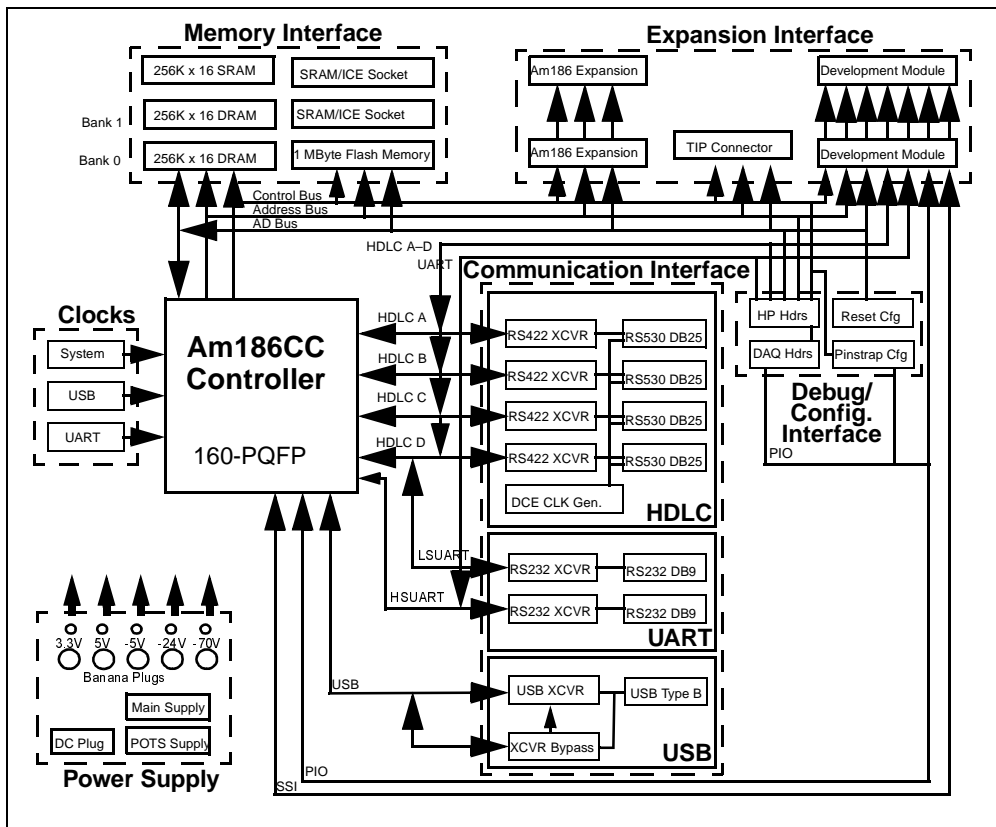
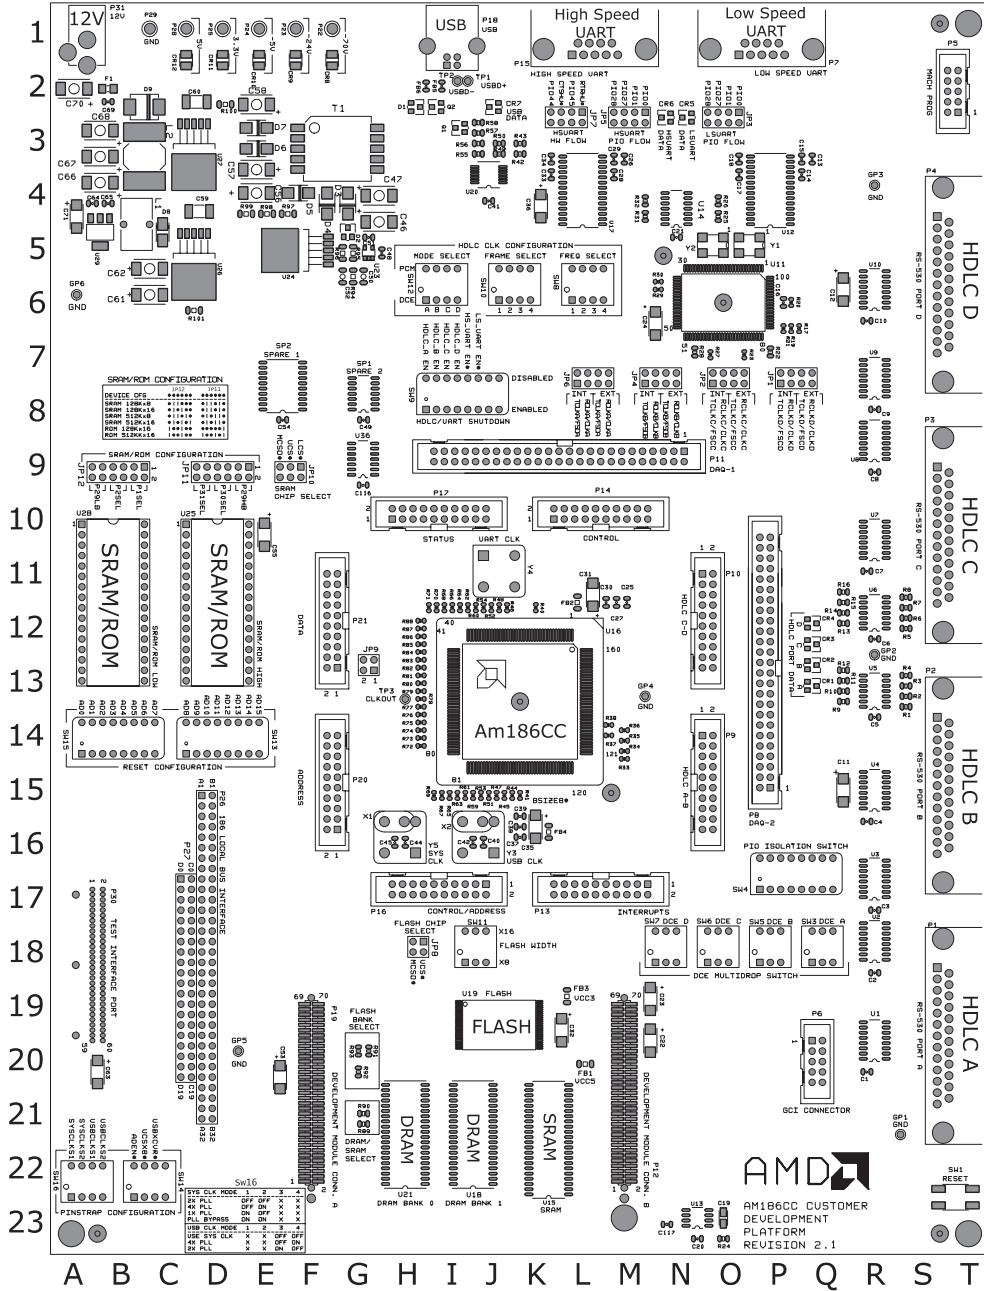

Figure 2-1. Main Board Block Diagram (Same as Figure 0-1)
Figure 2-2. Main Board Layout
2. Position the development module above the development module connectors (see P12 and P19 at locations M-22 and F-22, respectively, in Figure 2-2 on page 2-3) on the main board.
4. Plug the other end of the connector into the CDP's main board TIP (see P30 at location A-19 in Figure 2-2 on page 2-3) with the tab facing up.
2. Set the jumpers according to the configuration shown in Table 1-1 on page 1-7, and jumper your chip select on JP10 (see location F-9 in Figure 2-2 on page 2-3).
The Am186CC/CH/CU microcontroller customer development platform is easy to configure to fit your design requirements. Figure 2-1 shows the main board block diagram; Figure 2-2 shows the main board layout and component placement; and Table 2-1 lists the jumpers and switches. Note that the schematics referenced are in the separate schematic manual in your board kit.
- Driving X1 and X2 at location X1 into the integrated oscillator and using the internal PLL (see locations H16 and J16 in Figure 2-2 on page 2-3)
- Driving an external oscillator from Y5 into X1 and using the internal PLL (see location H16 in Figure 2-2 on page 2-3)
- Driving USBX1 and USBX2 at location X2 into the integrated oscillator and using the internal PLL (see location J16 in Figure 2-2 on page 2-3)